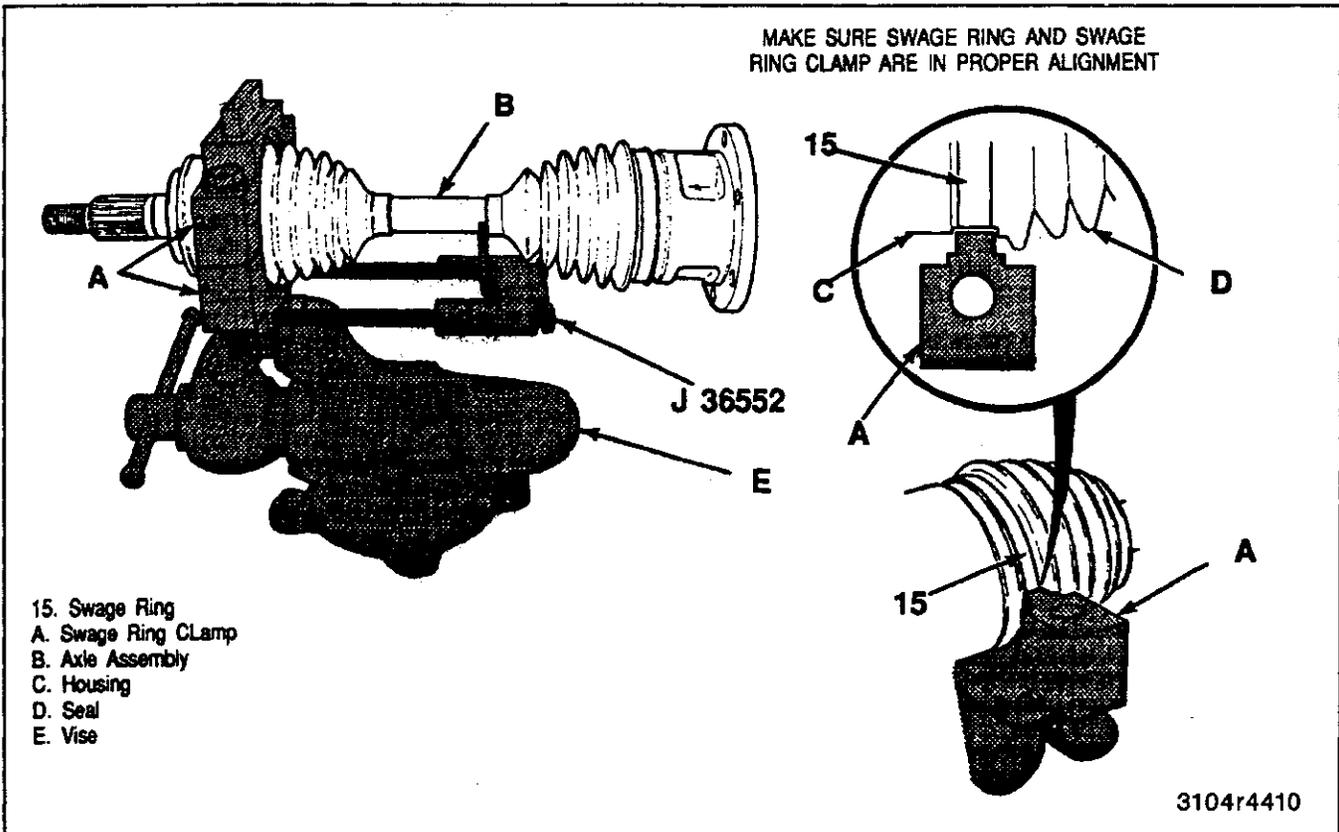

Figure 15—Installing Swage Ring
C. Slide large diameter of the seal (12) with the large swage ring (9) in place over the outside of the C/V joint race (18) and locate the seal lip in the housing groove (figure 15).
- The seal (12) must not be dimpled, stretched or out of shape in any way. If the seal is not shaped correctly, carefully insert a thin flat blunt tool without no sharp edges between the large seal opening and the outer race (18) at maximum clearance of oval ring (9) to release the air. Shape the seal by hand and remove the tool.
- D. Refer to the chart in figure 15 and select the correct size swage clamp tool J 36652.
- Make sure the seal (12), housing (18), and swage ring (9) all remain in alignment (figure 15).
10. Return the swage ring (9) to position on seal (12).
- Refer to the chart in figure 15 and select the proper size swage clamp tool J 36652.
- B. Place the top half of the proper size tool on the lower half of tool and check for proper alignment and dimension (figures 15 and 23).
- Make sure that the seal, housing, and swage ring (15) all remain in alignment (figure 15).